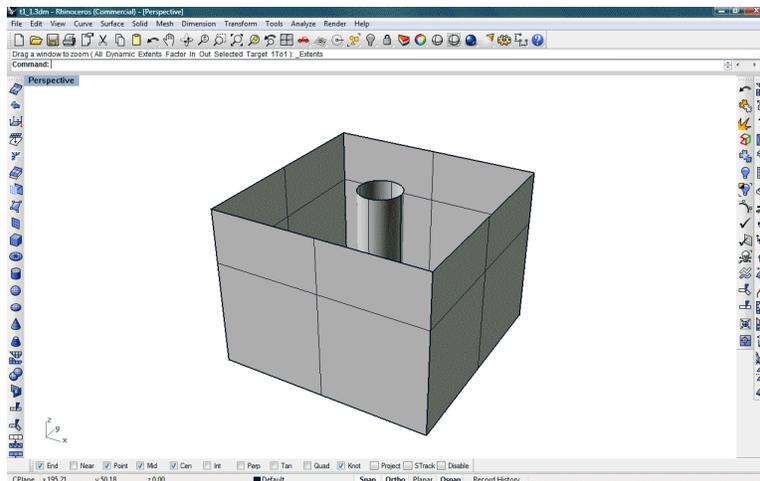

Figure 47: Perspective view of the lower part of the split model
25. Select the top part and **_Hide** it. Double-click the title of the viewport to return to a 4-viewport view and double-click the Perspective view port to maximize it (Figure 47).